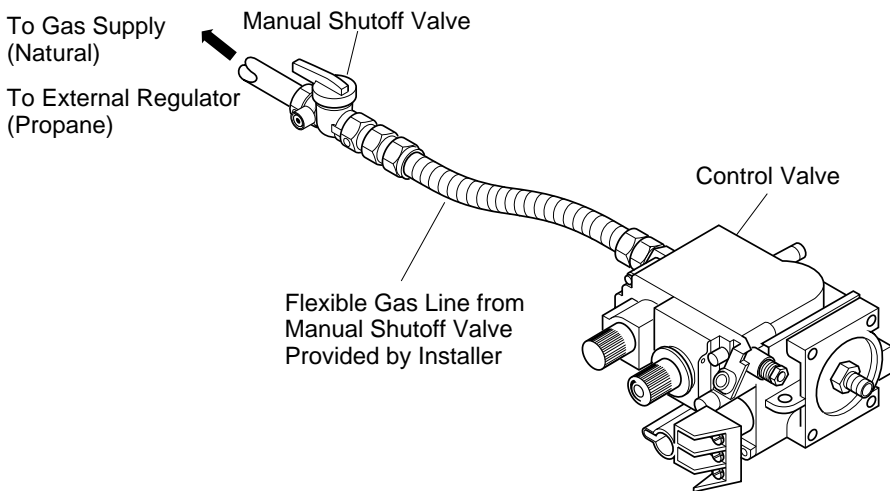

Figure 36 - Attaching Flexible Gas Line To Control Valve
3. Attach flexible gas line from gas supply to control valve (see Figure 36).